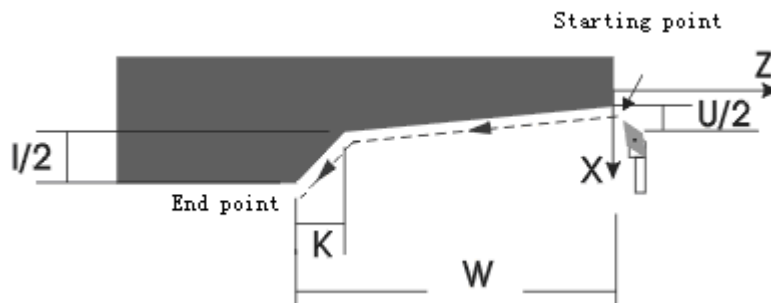

Fig. 4-10
2) G33 axial taper thread: as Fig. 4-10